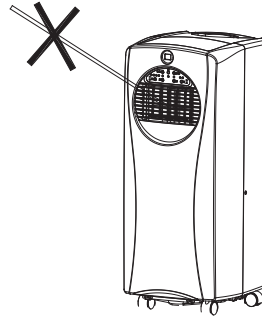

FIG.2
- Do not place objects on the unit or block the air inlet / outlet (fig. 2).